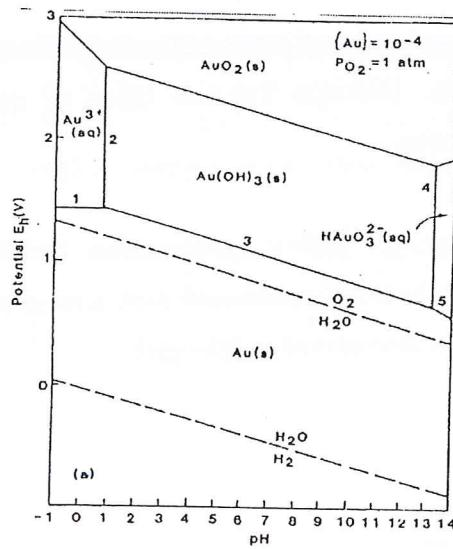

Figure 2 :  $E_H$  – pH diagram for Au-H2O system at 25°C
- [c] Figures 2 and 3, exhibit the  $E_H$  – pH diagram for Au-H2O system and the effect of reagent addition on the solubility of gold in the Au-CN-H2O system at 25°C respectively.